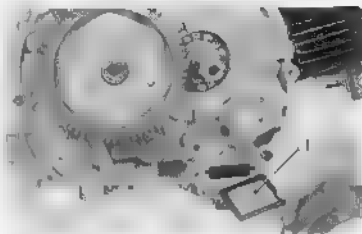

Fig. 5.13 Removing oil filter screen ① Oil filter screen
- Remove the right crankcase cover, pull out the oil screen and wash in gasoline (Fig. 5.13).